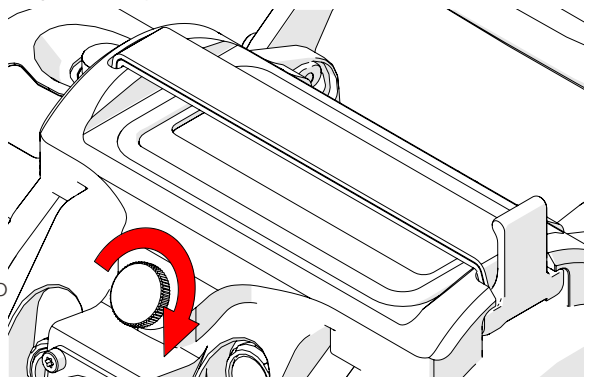

Fig. 64 - Tighten thumb screw
3. Lower the backpack and tighten the thumb screw to secure the backpack to the crawler (Fig. 64).